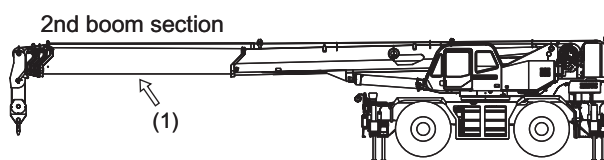

Fig.2
Sides and Lower sides of Boom, Wire Ropes (for boom telescoping) (Fig. 2,3)
3. Fully extend the 2nd boom section in Boom telescoping mode I, and then supply grease to the points shown in Fig. 2.